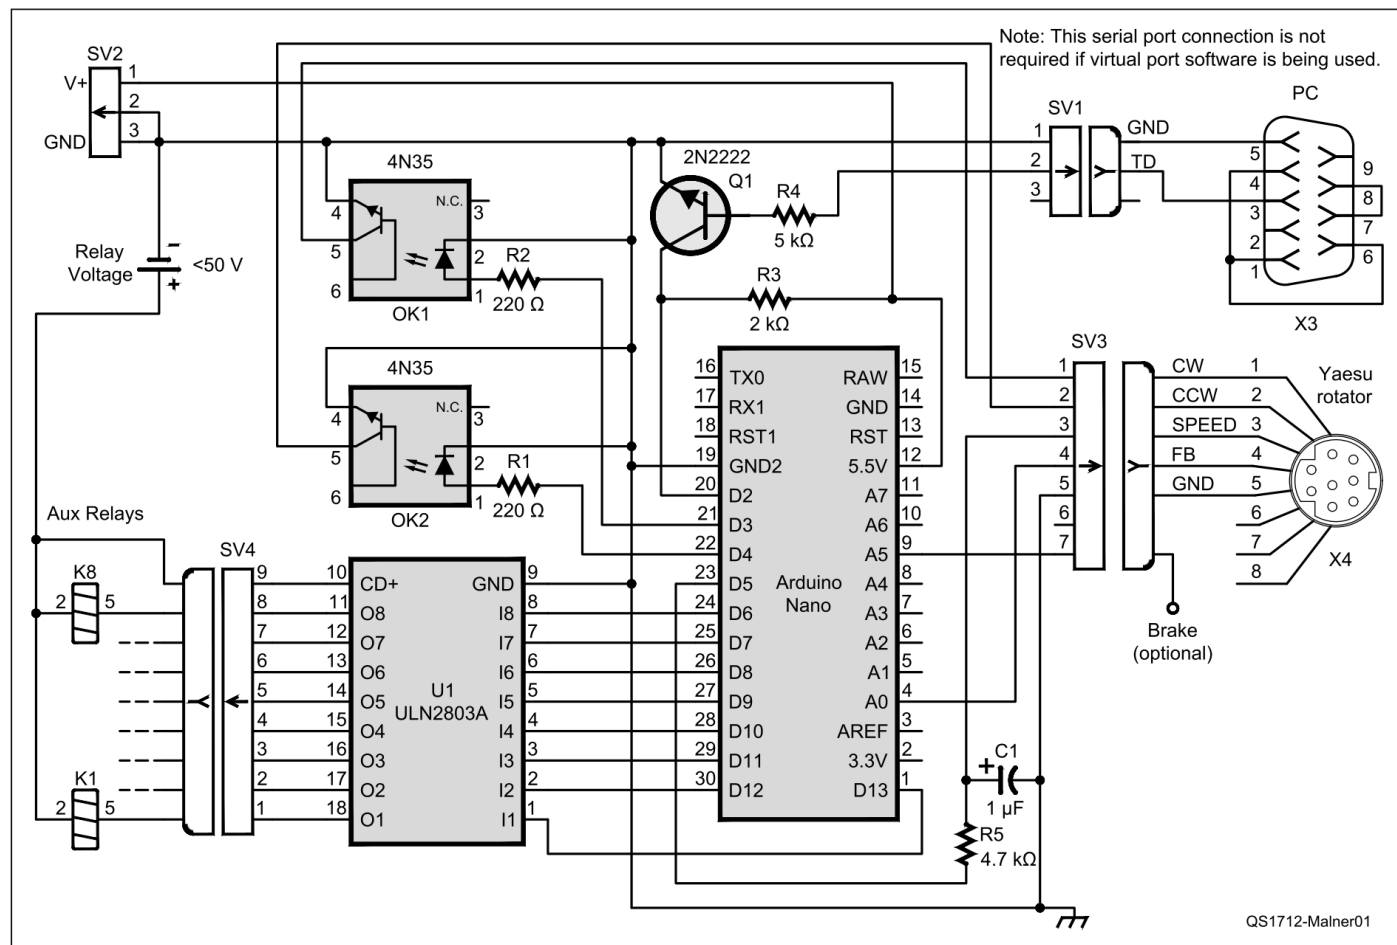

Figure 1 — Schematic of the complete system. Relays (contacts not shown) with relay voltage under 50 V can be used for switching antennas if desired.
The Arduino Nano is the main interface between the computer and the rotator controller (see Figure 1). Opto-couplers OK1 and OK2 isolate the signals for clockwise (CW) and counter-clockwise (CCW) rotation. The rotator positioning feedback connects directly to an Arduino analog input. Transistor Q1 converts the 5 V Arduino output to a serial port signal on the computer. RC filter R5 and C1 smoothes the pulse width modulated (PWM) signal from the Arduino that controls the rotator speed.